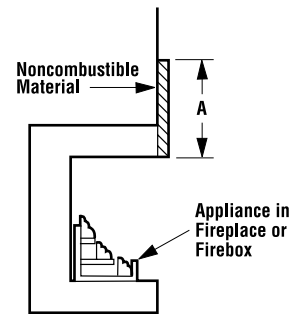

Figure 2
Step 3. Noncombustible materials (minimum requirements): To install the appliance without wood mantels, shelves or other combustible projections directly above the opening of the fireplace (firebox) refer to Figure 2 and Table 2. Note that at least 8" of noncombustible material must be installed above the appliances described in this manual.